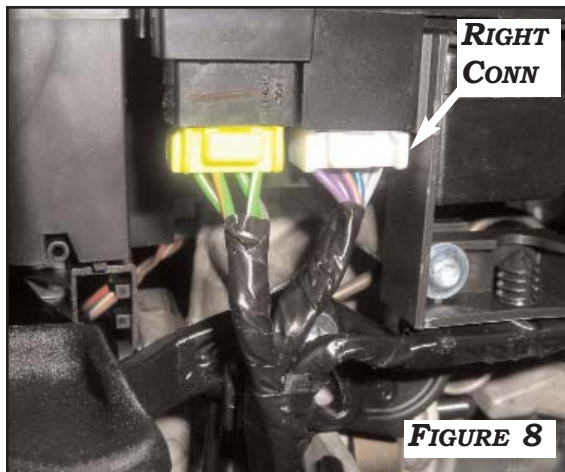

FIGURE 8
1. MEASURE 3/4" DOWN FROM THE BACK SIDE TOP CORNER AND 1/4" IN FROM THE OUTER EDGE TO CUT CLEARANCE FOR SWITCH AT RIGHT SIDE OF STEERING COLUMN. **FIGURES 8 & 9.**
4. INSERT **PINK** CRUISE WIRE TO **PIN 18** OF ECM, **VIOLET** CRUISE WIRE TO **PIN 34**, AND **YELLOW** CRUISE WIRE TO **PIN 15**. ONCE PINS ARE INSERTED, RE-ASSEMBLE CONNECTOR. ROUTE THE CLOCKSPRING/ECM HARNESS INSIDE VEHICLE TO STEERING COLUMN. LOOK BELOW STEERING COLUMN. LOCATE FAR RIGHT CLOCKSPRING CONNECTOR. **FIGURE 8**. USING **CLOCKSPRING/ECM HARNESS** IN KIT, INSERT **PINK** CRUISE WIRE TO **PIN 4**, **YELLOW** CRUISE WIRE TO **PIN 5**, AND **VIOLET** CRUISE WIRE TO **PIN 6. FIGURE 8A**